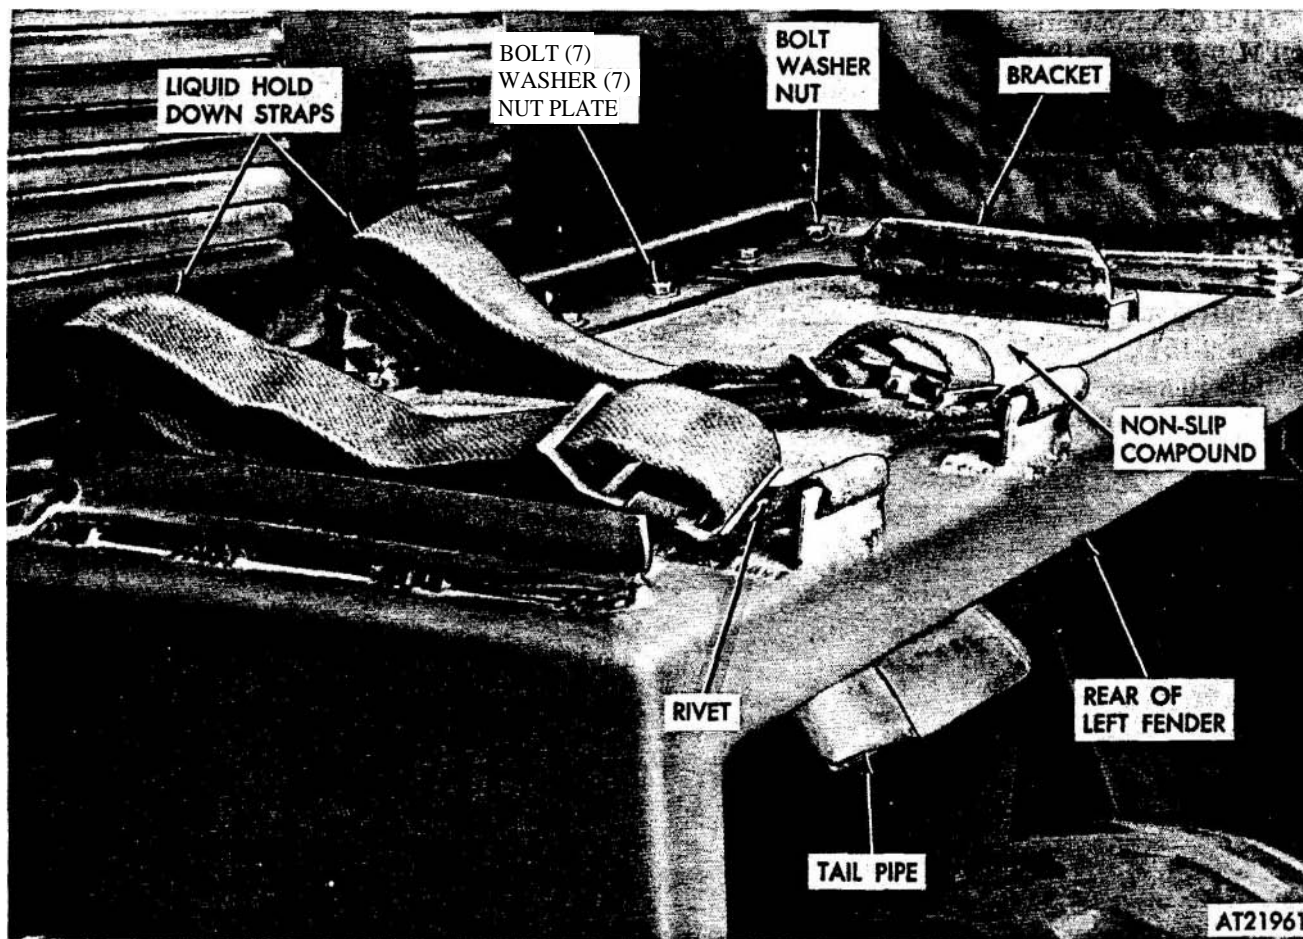

Figure 2-309. Tractor fender (rear right view), removal and installation.
(2) Remove liquid container hold-down straps on left fender if damaged. Drill out 16 rivets from straps, using a suitable drill. Remove straps (fig 2-309).